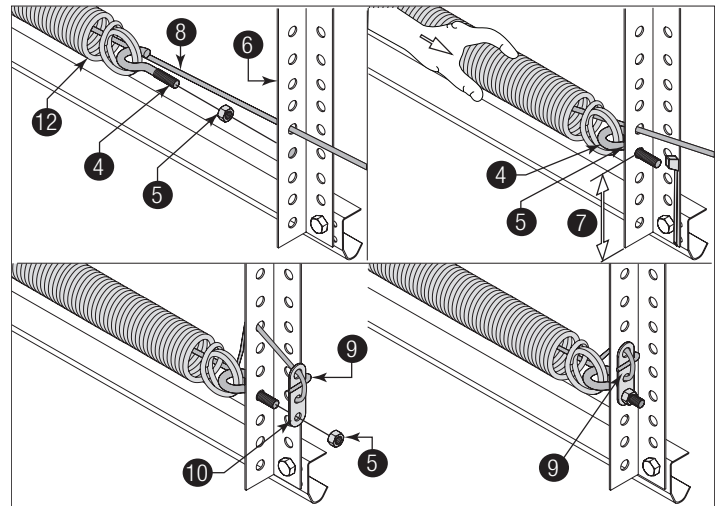
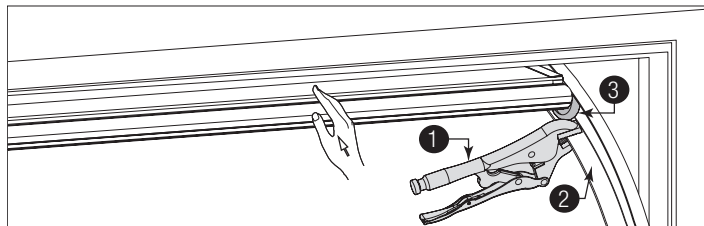

Figure 43, Left Side Shown
Figure 40, Outside Of The Door In The Open Position
See Figure 40 through Figure 43 for the following steps.
**IMPORTANT:** Whenever adjusting extension spring length for door balance, always open the door to the fully open position and return the locking pliers, as shown in Figure 40 to the horizontal tracks below the bottom track rollers.